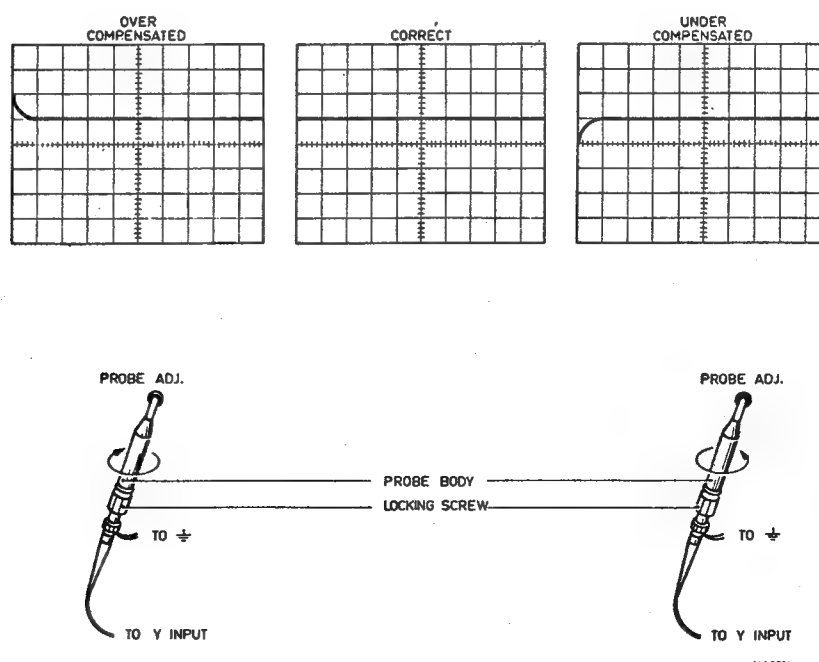

Fig. 2.3. Adjusting an attenuator probe
- Set AMPL/DIV switch (862) to 5 mV/div.
- Connect the measuring lead to socket A (851) and place the tip of the probe on socket PROBE ADJ (854).
- Loosen the 'locking screw' and turn the 'probe body' (see Fig. 2.3.), in relation to the cable until correct adjustment is obtained.